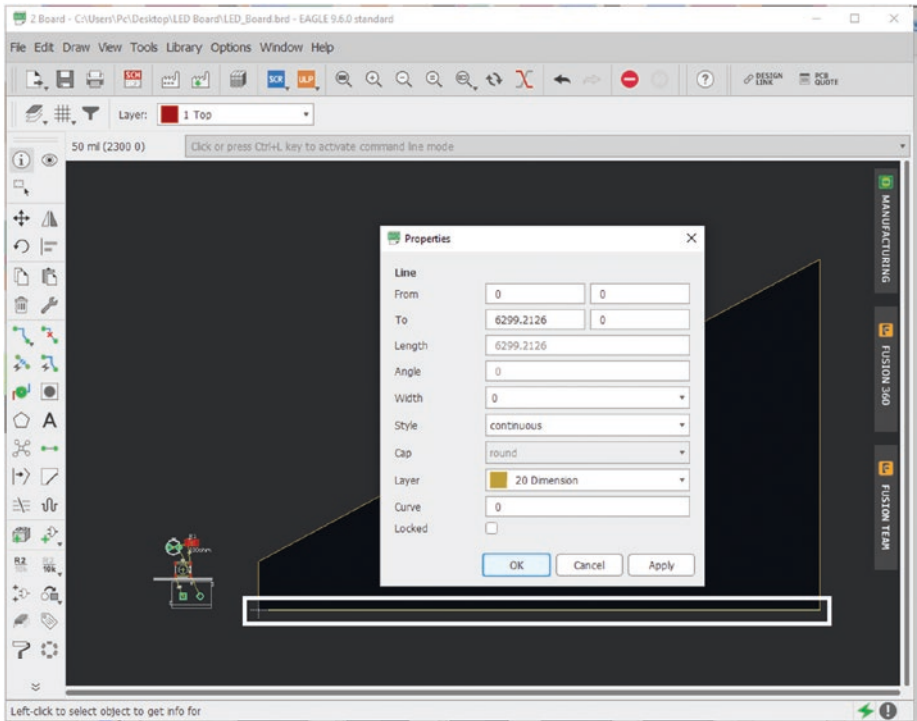

Figure 5-57. Select bottom horizontal line
6. Now click the bottom horizontal line, and the same box should appear. See Figure 5-57.